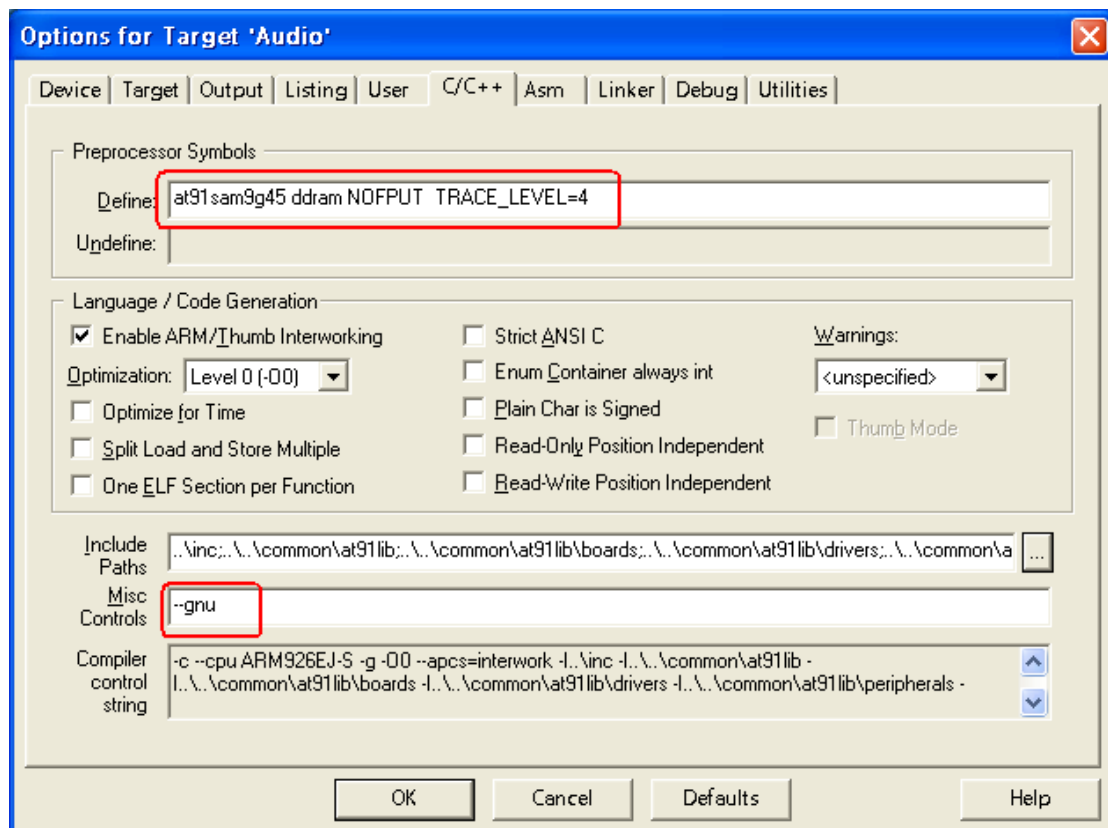

Figure 3-3
(3) Switch to C/C++ Tab, setting as figure 3-3: